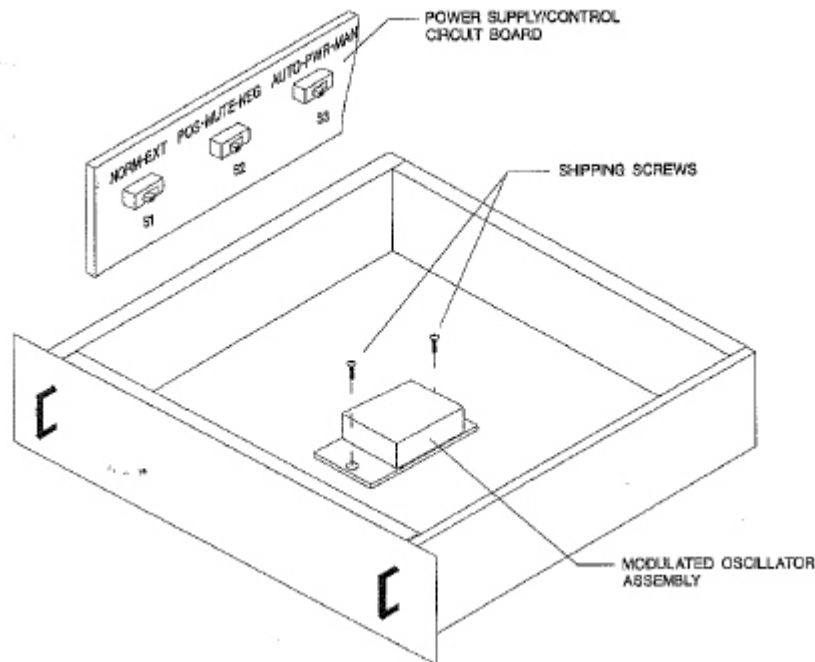

Figure 2-2
10. Refer to Figure 2-2 and ensure AUTO-PWR-MAN switch S1 and NORM-EXT switch S2 on the power supply/control circuit board assembly are operated to AUTO and to NORM respectively.
11. POS-MUTE-NEG switch S3 on the power supply/control circuit board is provided to select the RF mute input logic polarity (refer to Figure 2-2). S3 must be in the POS position when the ME-40 is operated with a Broadcast Electronics transmitter or as a stand-alone unit. Switch S3 is factory operated to the POS position prior to shipping.
13. Refer to Figure 2-2 and remove the two shipping screws which secure the modulated oscillator assembly to operate the shock mounts.